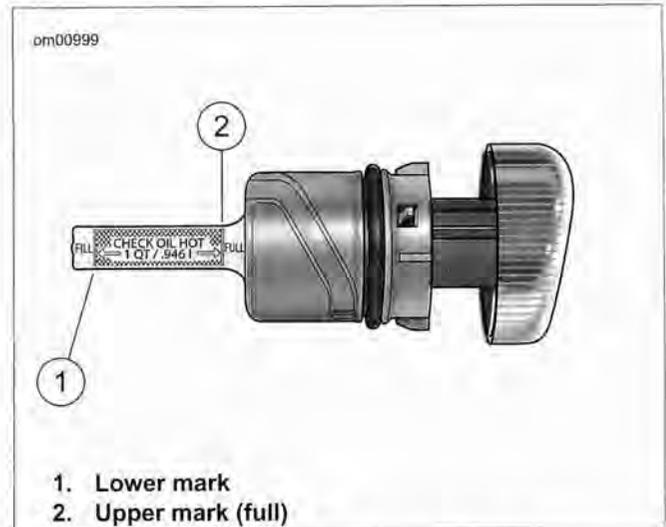

Figure 1-3. Filler Cap/Dipstick
5. See Figure 1-3. Remove the filler cap and check the hot oil level on the dipstick.